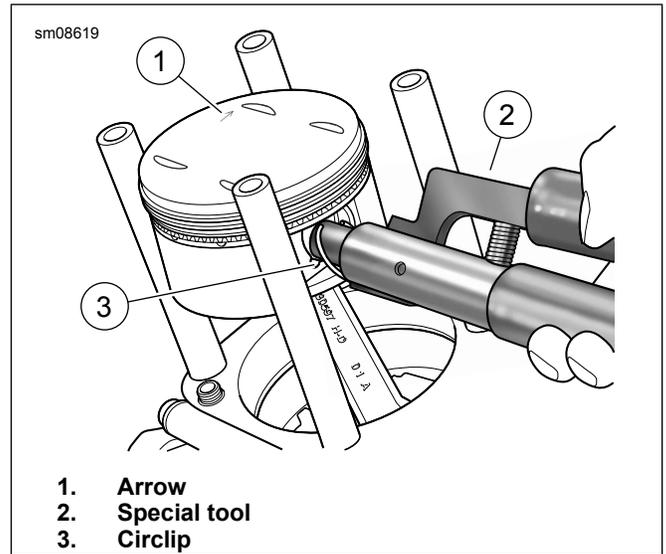

Figure 4. Install Circlip
- See Figure 4. Align and insert special tool (2) with circlip into piston.